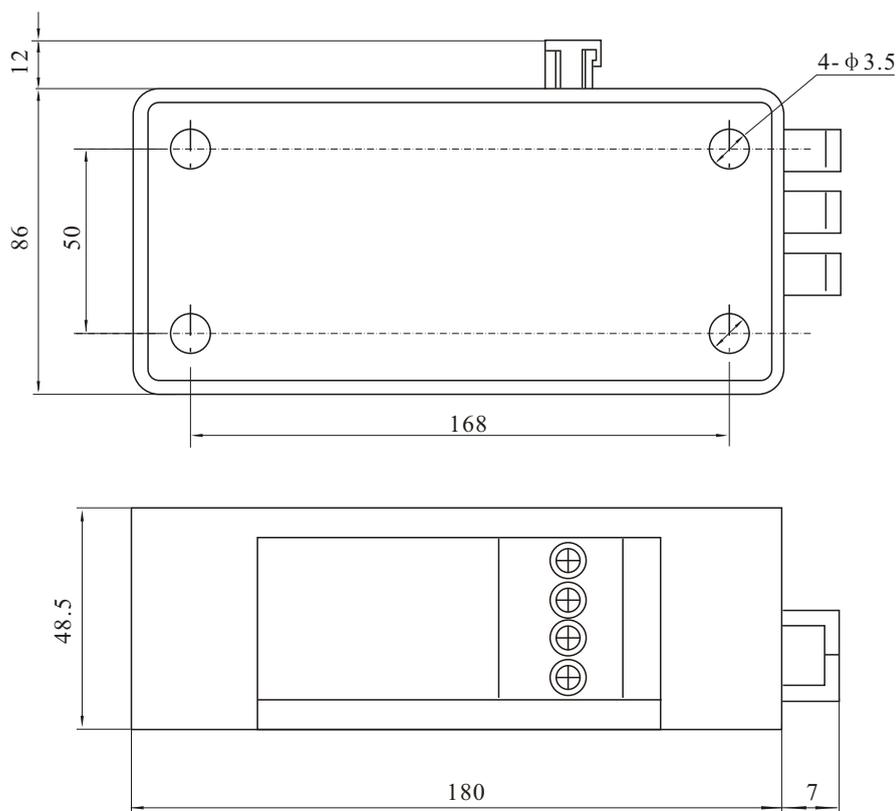

Figure 10D (power module overall and mounting dimensions figure)
- (1) It can be connected with different power if the control power voltage of Q、F、X、M are different.
- (2) The 35# terminal can be wired directly to the power (automatic energy pre-storage), and also can be connected in serial with N.O. push-button before connecting the power (manual energy pre-storage)
- (3) The attachment of accessory supply by users
- (4) * When the working power of intelligent release is DC one, it must be added with power module (In this moment, terminals 1#, 2# are strictly not allowed to be wired with AC power again). The power module and its overall and mounting dimensions see figure 10D. The head wiring as shown in the figure (when DC power Dc110 V or 220V , input from u1(+), u2(-)), and the two output terminals of power module should be wired correspondingly with secondary wiring socket terminals 1(+), 2(-).
- (1) It can be connected with different power if the control power voltage of Q, F, X, M are different.